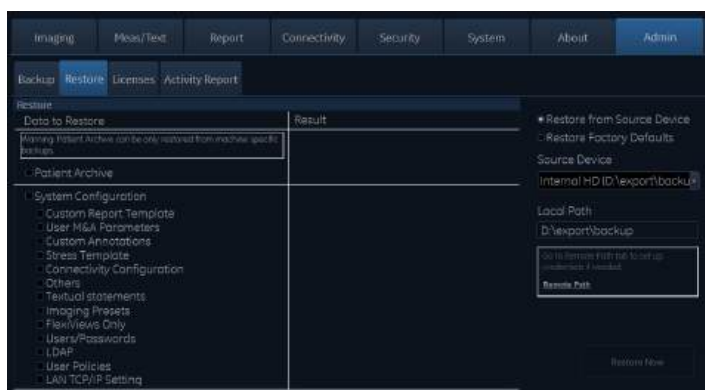

Figure 10-69. The Restore sheet
- One or several **system configuration items** to restore parts of the system settings and user presets (see Figure 10-69).